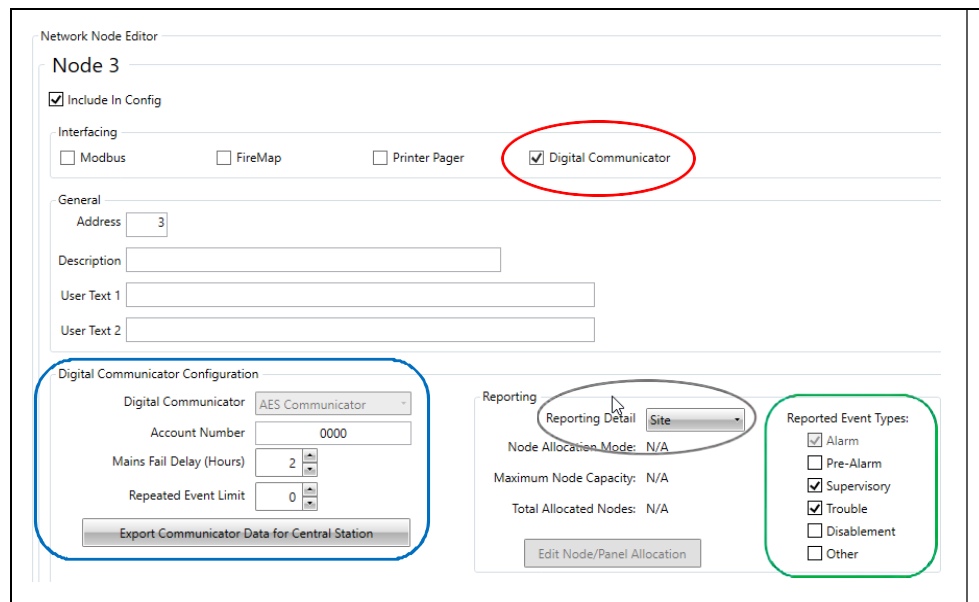

Figure 20-39: Assigning Node 3 to the Digital Communicator
- In FireUtils' Component Tree, click on Node 3 and, in the "Network Node Editor", check the "Digital Communicator" tick box (Figure 20-39, red oval).
- Set the configuration parameters for the Digital Communicator in the "Digital Communicator Configuration" popup box (Figure 20-39, blue square), which event types will be reported (Figure 20-39, green square), and the level of reporting detail (Figure 20-39, grey oval)